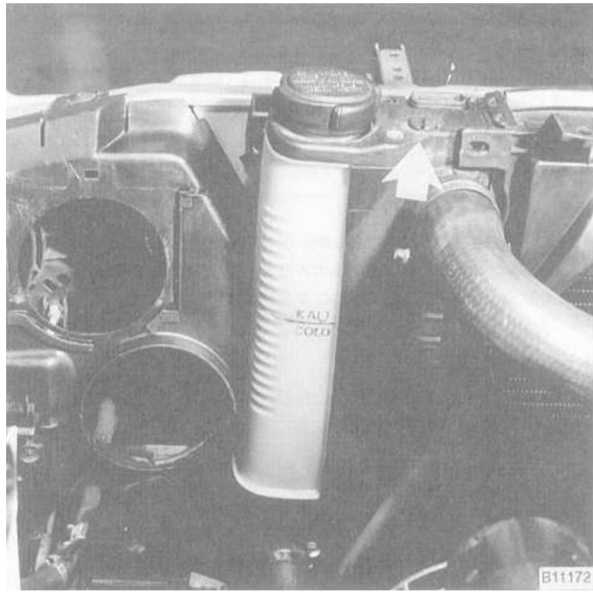

Fig. 6. Cooling system bleed screw on 525i models (arrow). Also note cold level mark on expansion tank.
2. On models with radiator-mounted expansion tank, loosen bleed screw on radiator expansion tank. Add coolant until it spills from bleed screw. Tighten screw. See Fig. 6.